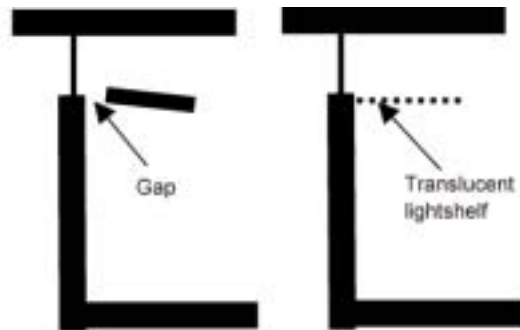

Figure 4 – Creating a Wall Wash
- **Opaque vs. translucent shelves.** Opaque shelves may create a dark space along the wall directly under them if they are not coupled with a view window. Leave a gap between the light shelf and the wall to create a wall wash or use electric lighting to brighten this wall. Translucent shelves provide a soft light under them but must be carefully evaluated so the direct view of the under side does not create glare. See Figure 4 above.